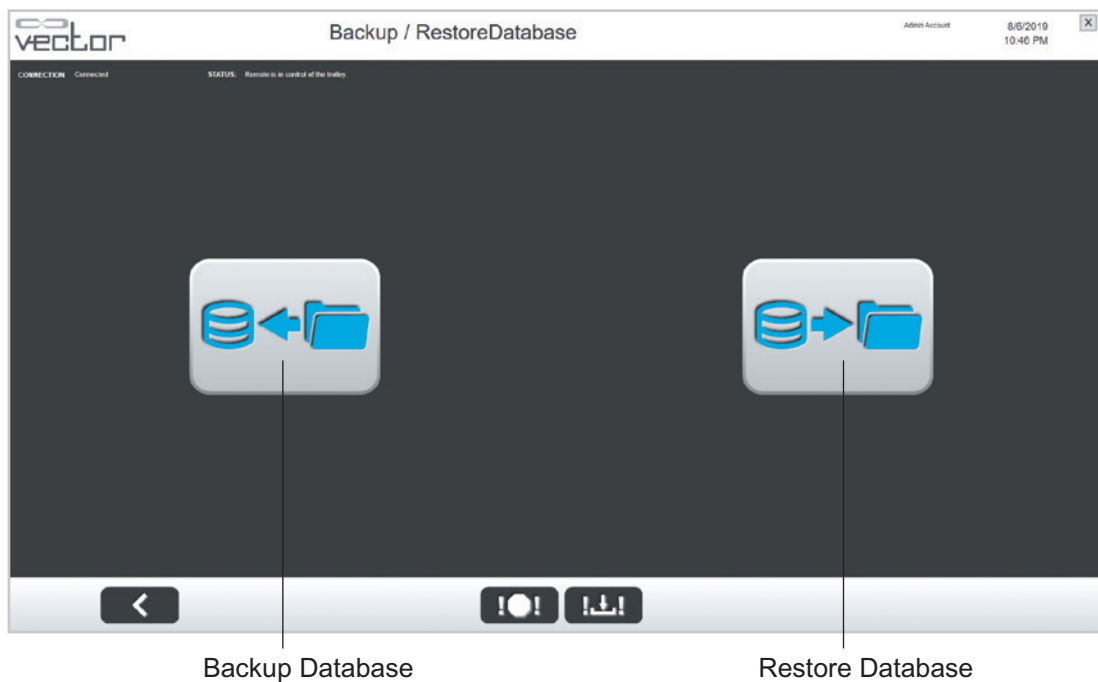

Figure 11-6: Backup/Restore Database Screen
5. To return the Admin Menu screen, press the Back button. See Figure 11-6.
2. The Backup/Restore Menu screen will open. See Figure 11-6.
1. From the Backup/Restore Menu screen, press the Restore Database button. See Figure 11-6.